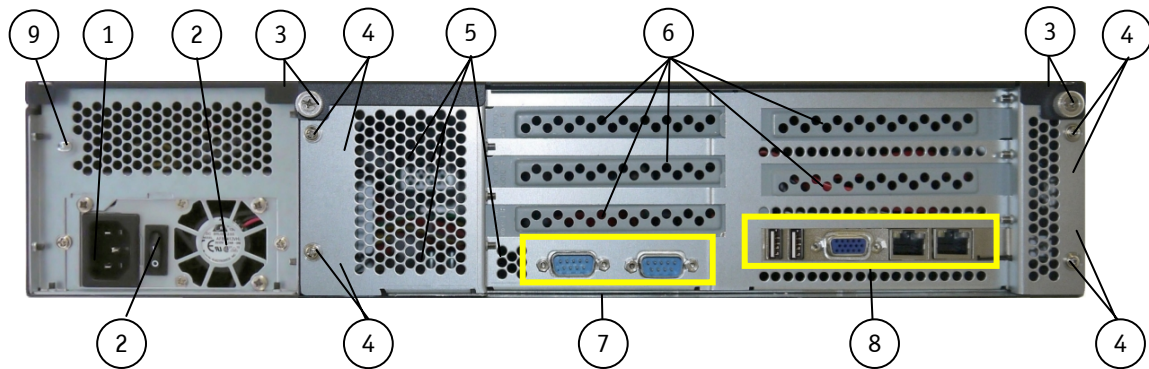
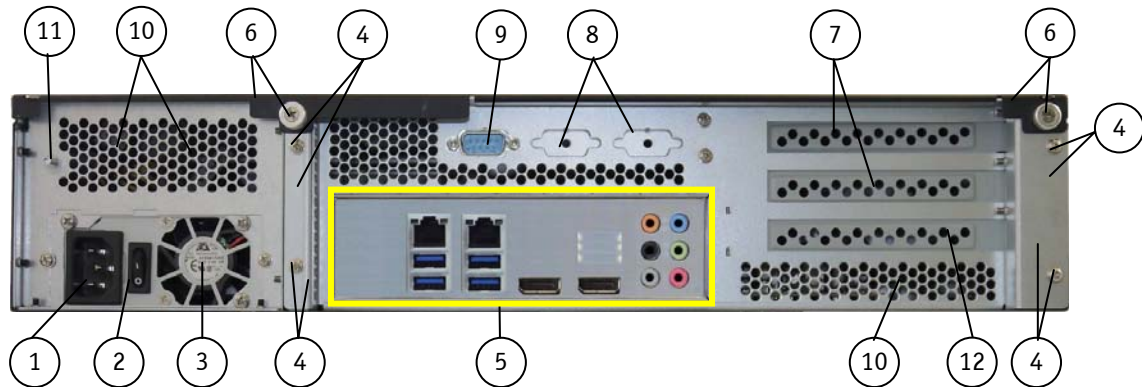
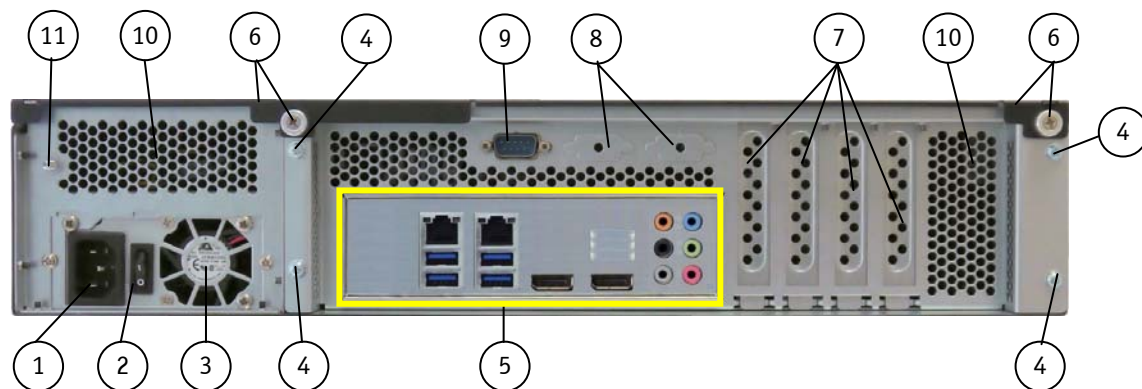

Fig. 13: Rear side of the KISS 2U V2 with an SBC card (shown with a PCI-762 and an AC wide range PSU)
Fig. 15: Rear side of the KISS 2U V2 with a KTQ87/Flex (here with a wide range power supply)
Fig. 16: Rear side of the KISS 2U V2 with a KTQ87/Flex (shown as a configuration for low profile expansion cards)
- ☐ Fig. 13, pos. 3 and Fig. 15/Fig. 16, pos. 6) on the rear side.
| 4 Card cage (for SBC and expansion cards) with fixing screws | Interfaces of the SBC card [PCI-762 (Fig. 13)] |
| | 8 Fig. 13]] |
Depending on the installed CPU card (motherboard or SBC), your system can be equipped with on-board interfaces (e.g. serial interface) routed to the rear panel (refer to Fig. 13, pos. 7 Fig. 15 and Fig. 16, pos. 9). These ports allow you to connect different peripherals.
The grounding stud is located on the rear side of the KISS 2U V2 platform (see Fig. 13, pos. 9 and Fig. 15 /Fig. 16, pos. 11).